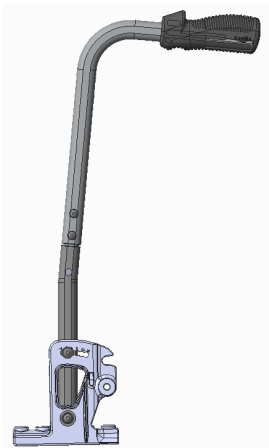

Figure 4.55
4.16.1 The backrest height is adjusted by loosening the bolts and nuts while moving the upper part of backrest tube upward or downward to the desired height. The backrest height could be set as 37 cm, 40 cm and 43 cm. (See Figure 4.55, 4.56 and 4.57)